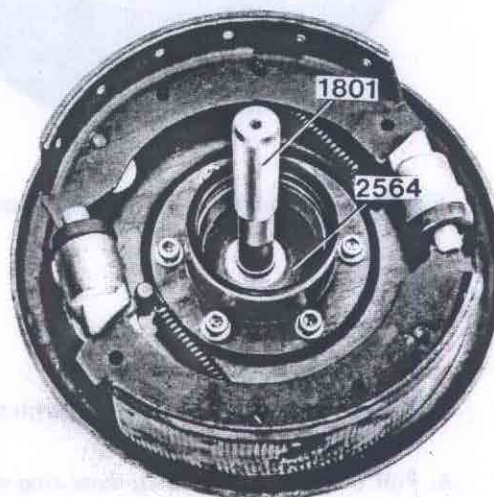

Fig. 77-7. Removing the inner bearing outer ring and inner sealing ring
1. Press out the inner bearing outer ring and inner sealing ring with two 6132, drift 2564 and standard handle 1801, see Fig. 77-7. Place tool 6132 as shown in Fig. 77-8.